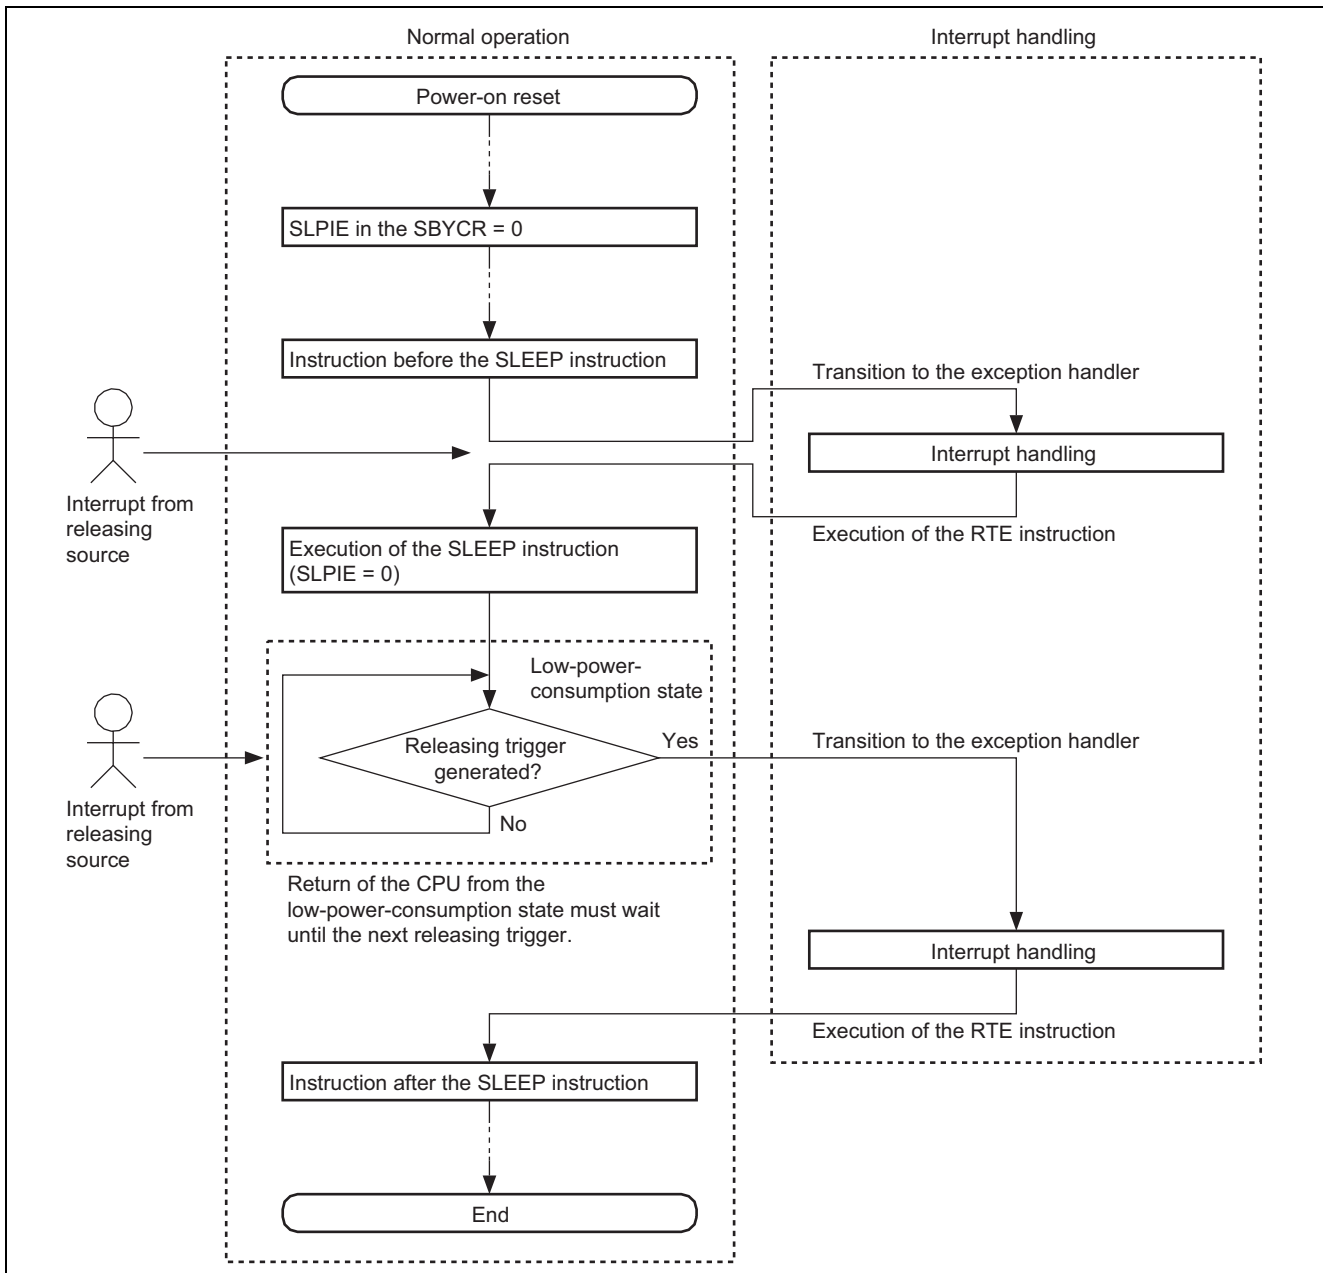

Figure 4 Generation of an Interrupt from a Releasing Source (Disabling the Sleep Interrupt) Immediately before SLEEP Instruction Execution
Figure 4 shows an example of operation when an interrupt from a releasing source is generated (and disables the sleep interrupt) immediately before the SLEEP instruction. When the releasing-source interrupt is generated immediately before the SLEEP instruction while the SLPIE bit is clear (0), exception handling for the interrupt starts. On return from the interrupt handling routine, the SLEEP instruction is executed and the CPU makes the transition to the low-power-consumption state. In such a case, release from the low-power-consumption state will not proceed until the next interrupt from a releasing source.